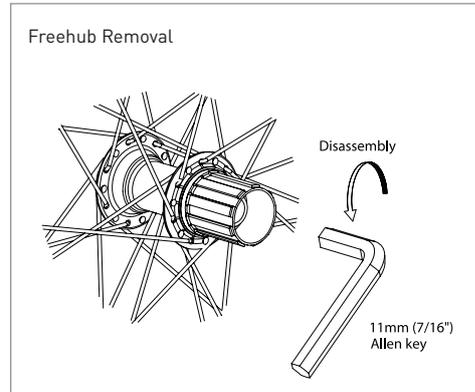

Figure 1
9. Turn the wheel counter-clockwise until the freehub breaks loose and can be removed fully from the hub shell (fig. 1).